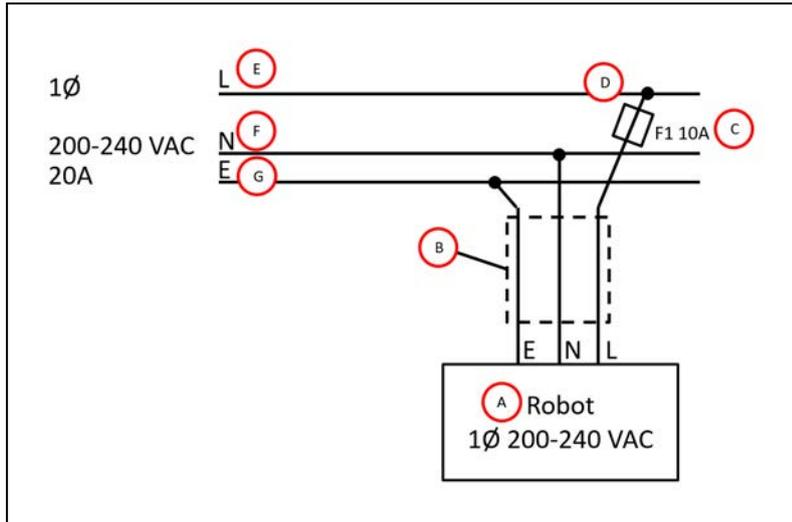

Figure 4-11. Typical AC Power Installation with Single-Phase Supply
**Additional Information:** The 24 VDC cable is not supplied with the system, but is available in the optional Power Cable kit (part number 04120-000) Refer to Basic System Cable Layout on page 61 for more information. See Figure 4-11.